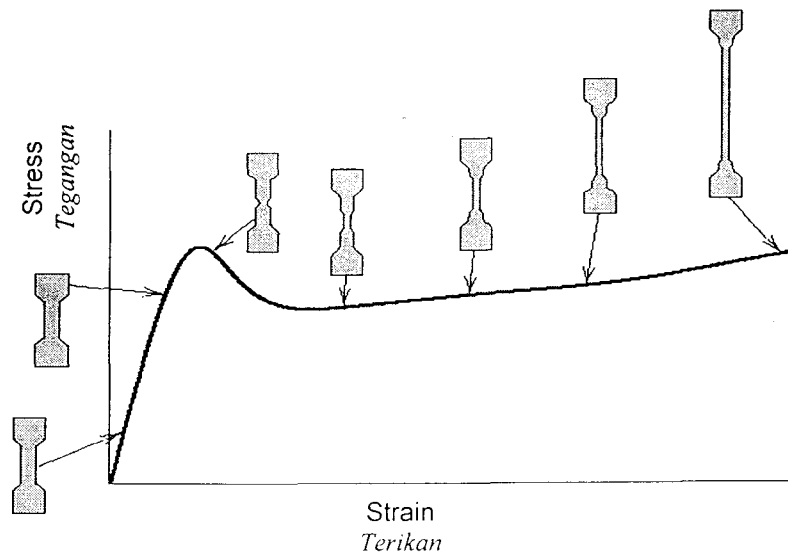

Figure 4
- [c] Deformation of semicrystalline polymers under tensile loading is schematically illustrated in Figure 4. Explain the progress of change in molecular structure of a semicrystalline polymer as the load increases.